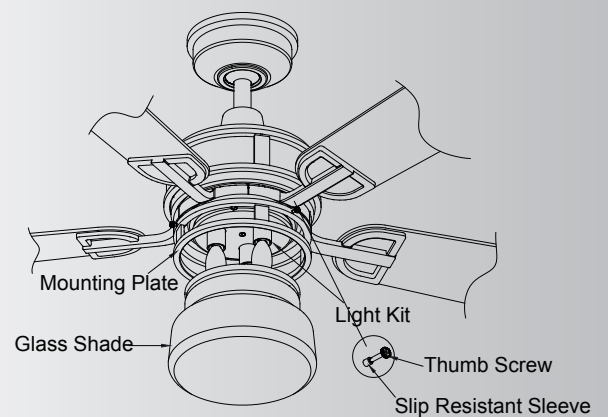

Fig. 25
Step 2. Place the slip resistant sleeve on the end of the thumb screw with knurled head. Lift the glass shade allowing it against the mounting plate and securely tighten with the 3 thumb screws. Do not overtighten the screws.(Fig. 25)